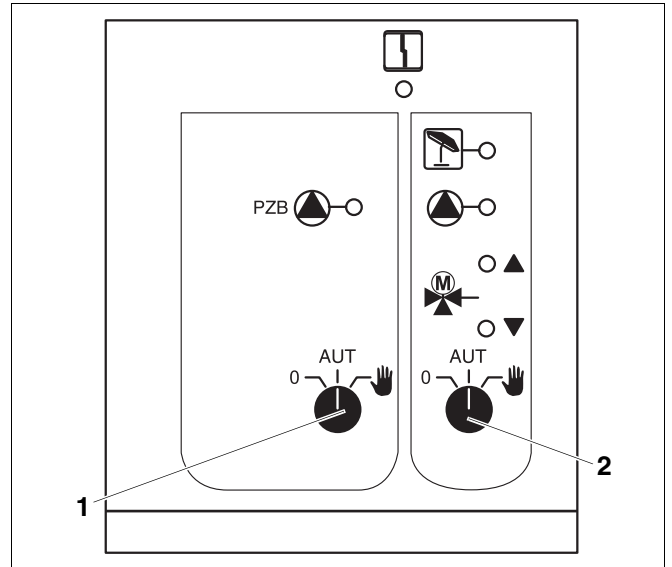

Fig. 22 Module central ZM433
(fig. 22, pos. 1)
(fig. 22, pos. 2)